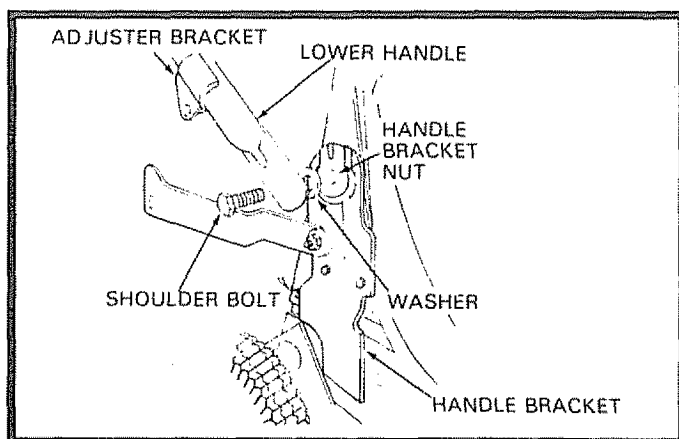
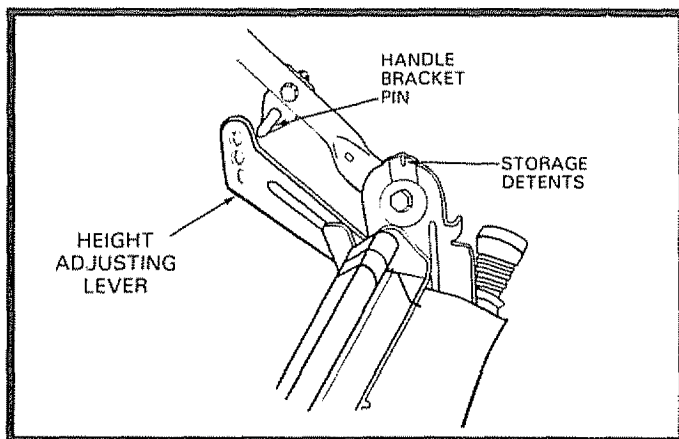

FIG. 2
FIG. 3
- Place the Lower Handle over the Handle Brackets with the Adjuster Brackets down (See Fig. 2).
- Start threads on the Shoulder Bolt into the Nut located on the inside of Handle Bracket (See Fig. 2). Do this for both sides of lawn mower.
- Tighten the two (2) Shoulder Bolts with the 3/4 socket or adjustable wrench.
- Raise Handle and put the center hole of the Height Adjusting Levers over the Pins on the Adjusting Brackets (See Fig. 3).